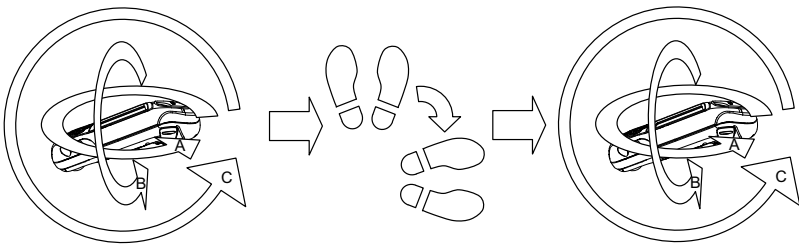

Figure 4-4. Calibrating the Compass
4. Rotate the device 360 degrees in a horizontal direction for five or more seconds. See Figure 4-4.
5. Rotate the device 360 degrees in a roll direction for five or more seconds. See Figure 4-4.
6. Rotate the device 360 degrees in a pitch direction for five or more seconds. See Figure 4-4.